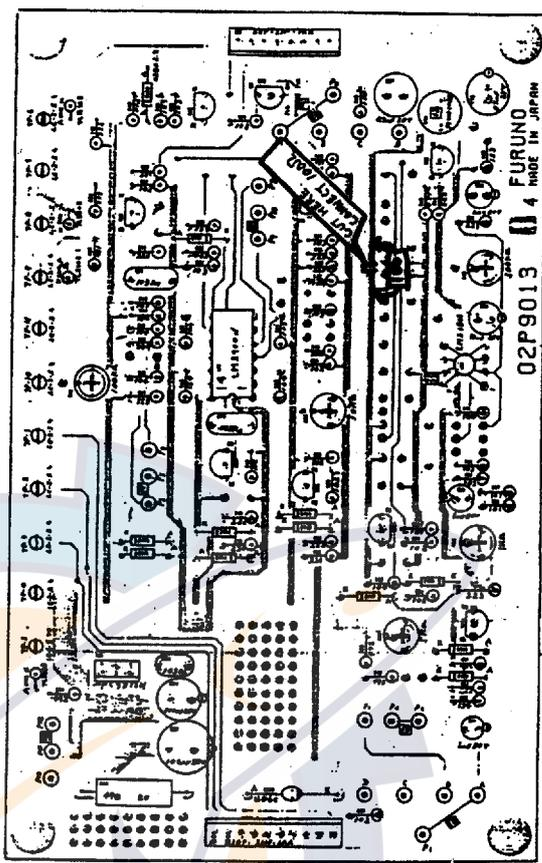

Fig. 6 PCB 02P9013
(5) Modify the PCB 02P9013 as shown in Fig. 6.